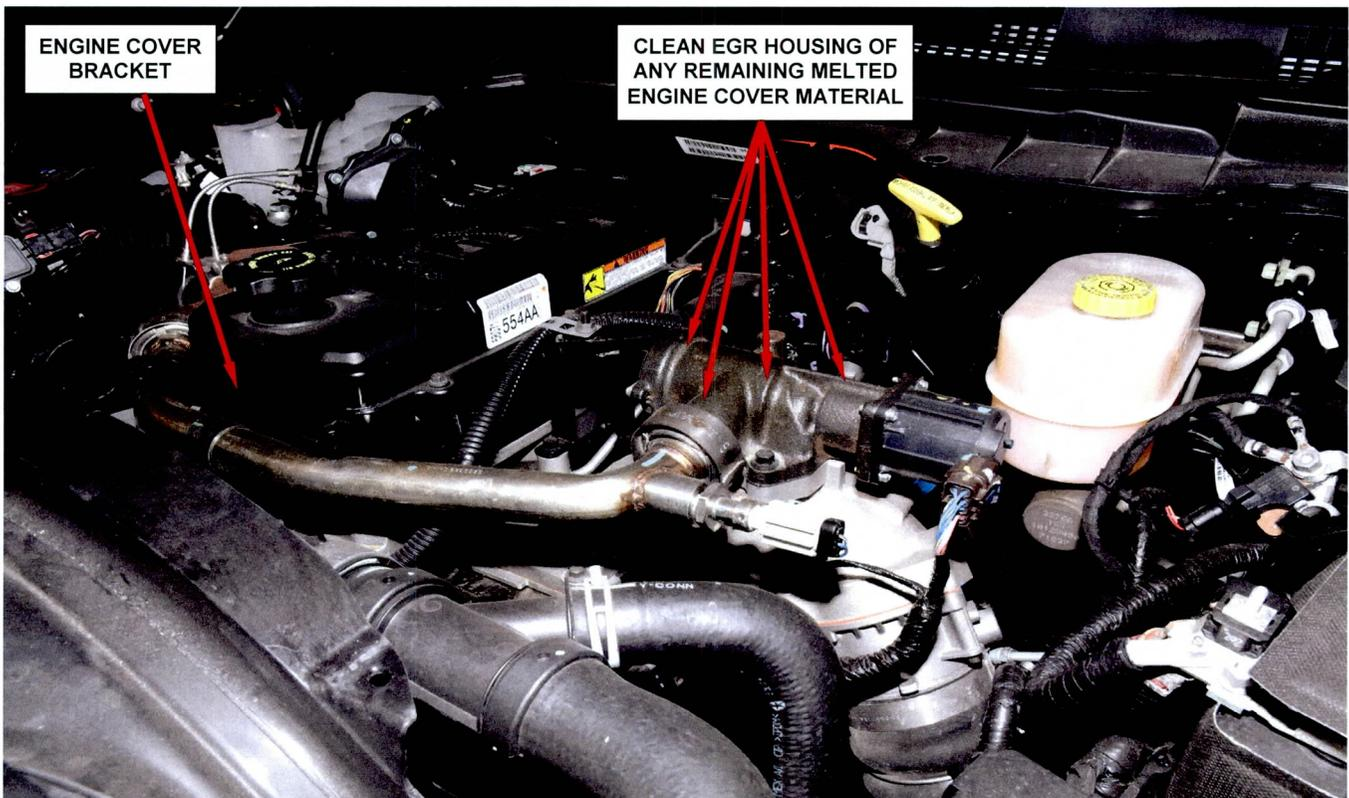

Figure 6 – Clean EGR Housing
16. Clean any old melted original engine cover debris from the top of the Exhaust Gas Recirculation (EGR) valve housing (Figure 6).